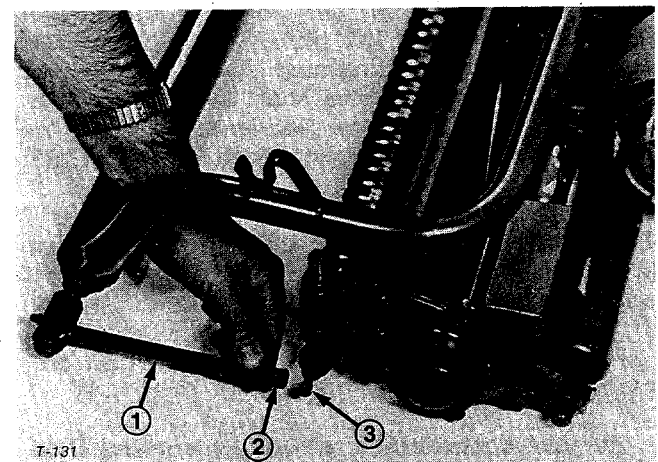

Figure 25
2. Slide sleeves back on pull arm ball joints and lift pull arm sockets straight up off ball studs (Fig. 25).
2. Align pull arms with ball studs, slide sleeves back on sockets and drop arm sockets down on ball studs (Fig. 25).